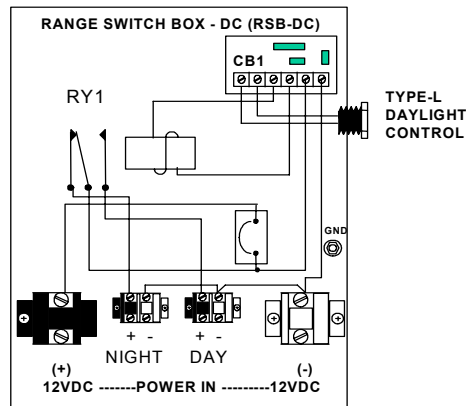

Figure 2-15
- a. The RSB-DC (Figure 2-15) is used on DC powered ranges to switch between daytime and nighttime lights. The device is comprised of a circuit breaker, type-L daylight control, relay driver circuit card and a single pole, double throw (SPDT) relay.